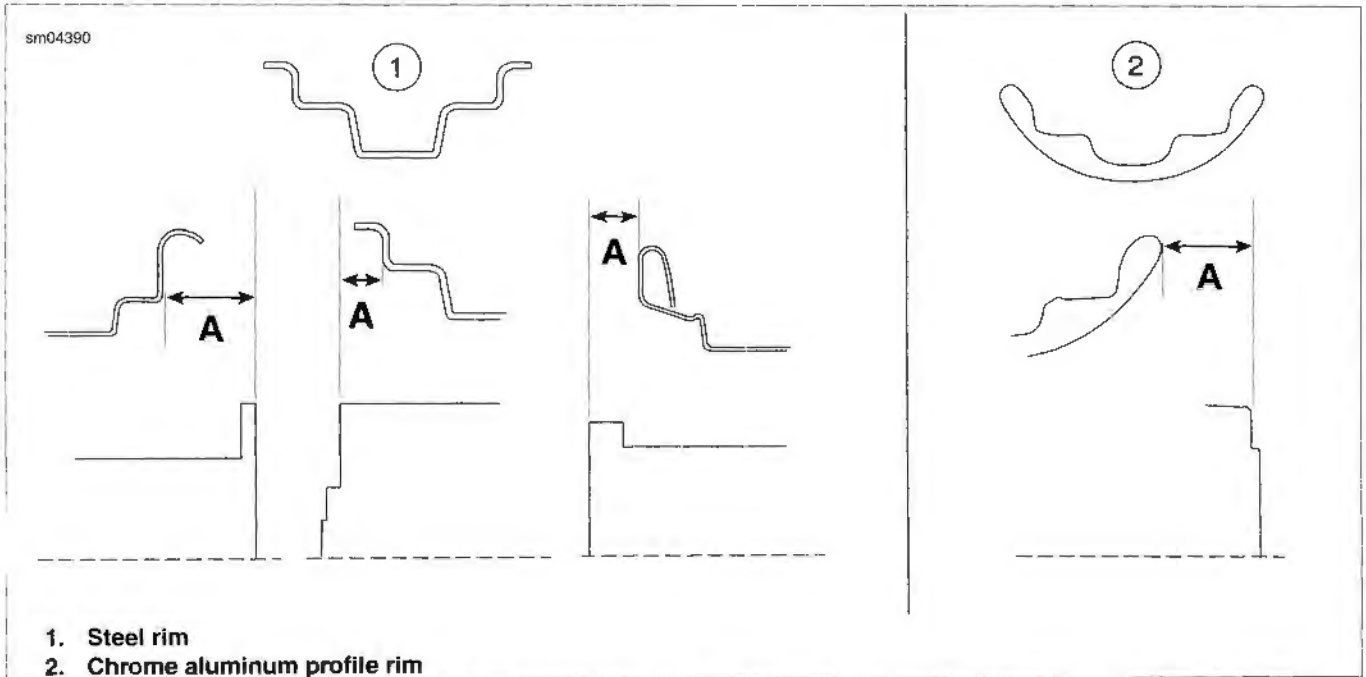

Figure 2-24. Laced Wheel Hub Offset Dimensions
- See Figure 2-24. Measure the distance from the straightedge to the location shown, based on rim design, to determine distance "A". The measured offset should be within that shown in Table 2-12.